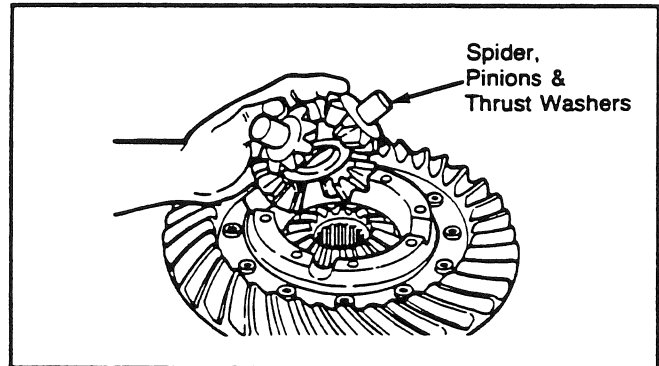
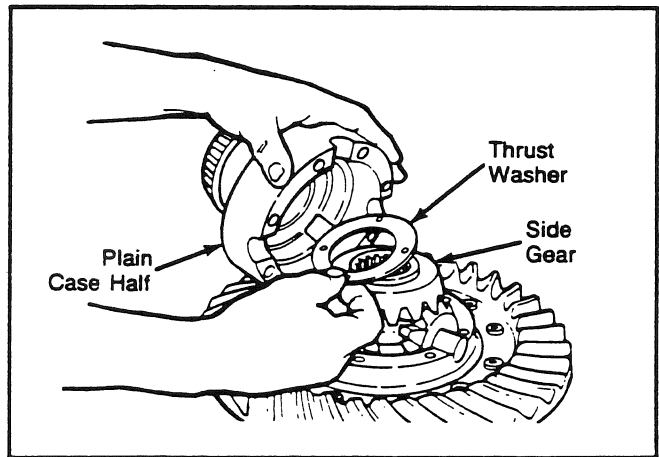

Fig. 55
Fig. 56
7. Install the spider, differential pinions and thrust washers into the flange case half (see Fig. 55). Install the second side gear and thrust washer over the spider and differential pinions (see Fig. 56).